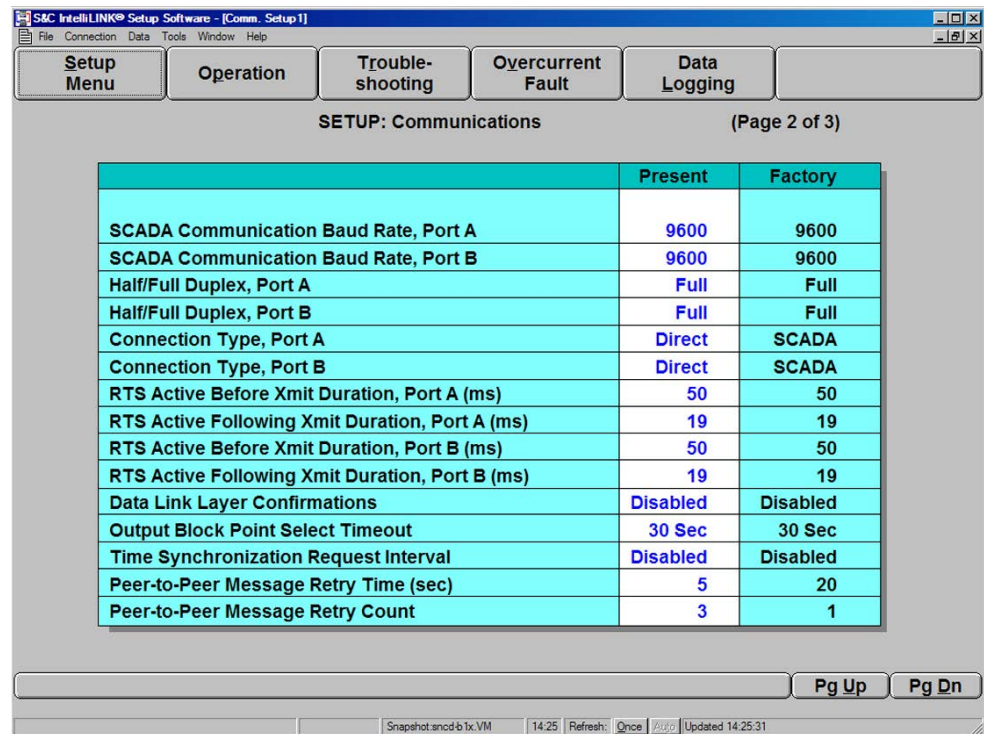

Figure 18. The *Setup>Communications* screen, Page 2.
STEP 9. At Page 1 of the *Setup>Communications* screen, click on the **PgDn** button to display Page 2. See Figure 18. Enter the correct values for this switch control.